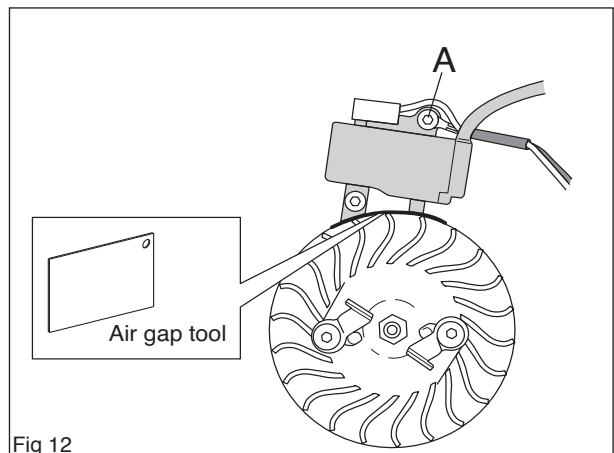

Fig 12
Turn the flywheel so that the magnets are in line with the ignition module. Fit the ignition module with the plastic feeler gauge (502 51 34- 02) held in position at the same time, without tightening the bolts. Fit the earth cable (black) (A). Set a distance of 0.3 +/- 0.1 mm, between the ignition module and magnet. The measurement applies to the two lowest lugs on the ignition module. Tighten the screws, tightening torque 4–6 Nm. Fit the blue cable on the ignition module. (see figure 12)